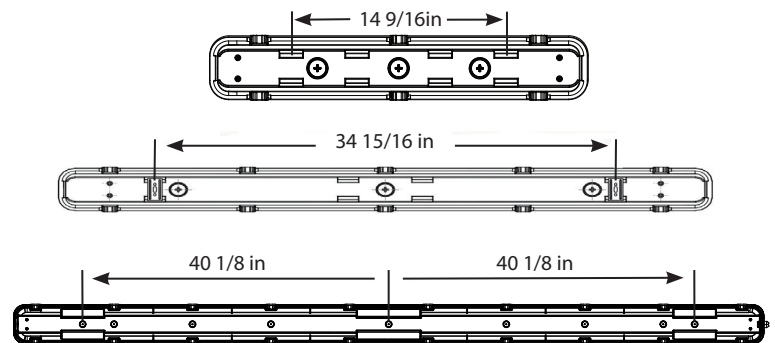
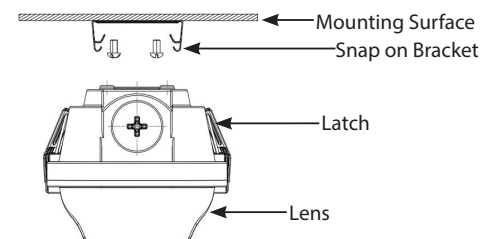
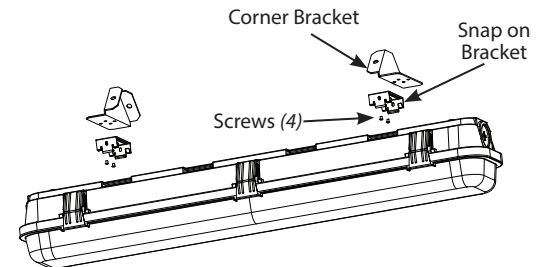

Fig. 1
Fig. 3
Fig: 5
1. Use appropriate mounting hardware (*not supplied*) to secure the **Snap on Brackets** to mounting surface. Refer to recommended **Snap on Bracket** spacing in Fig. 1 for SEAL 2ft, SEAL 4ft and SEAL 8ft.
WARNING: Mount Snap on Brackets symmetrical about the center as shown in Fig. 1. Snap on Brackets must be aligned with each other to secure Housing.
8. Snap **Housing** on **Snap on Brackets** as shown in Fig. 3.
1. Snap **Housing** on **Snap on Brackets** as shown in Fig. 3.
Ordered separately - Fig. 5 & 6:
1. Use appropriate mounting hardware (*not provided*) to secure the **Corner Brackets** (2) to the mounting surface as shown in Fig 5. **Corner Brackets** must face towards each other. Recommended **Corner Bracket** distance center to center is 14-13/25" for SEAL 2ft and 34-19/20" for SEAL 4ft & SEAL 8ft.
2. Secure (2) **Snap on Brackets** (*supplied standard with Housing*) to **Corner Brackets** (2) with **Screws** (4 *provided*).
3. Snap **Housing** on **Snap on Brackets** (2) as shown in Fig. 3, Page 1. Ensure that the **Housing** is secure on **Snap on Brackets** (2) onto the grooves on **Lens** as shown in Fig. 1, Page 1.